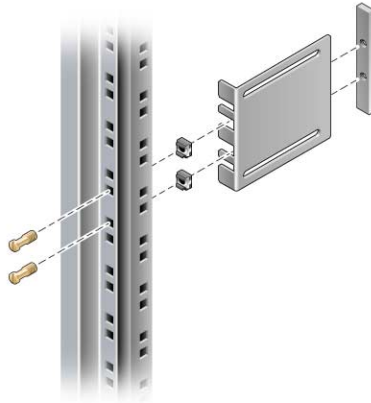

FIGURE 2-10 Securing the Brackets to the Rack
7. Lift each short bracket to the desired position at the front of the rack and attach a short bracket to each of the front rack uprights (FIGURE 2-10).
To secure each bracket, use two of the brass M6 collar screws and M6 cage nuts (if required), and one threaded strip (FIGURE 2-10).
8. Lift each long bracket to the desired position at the rear of the rack and attach a long bracket to each of the rear rack uprights (FIGURE 2-10).